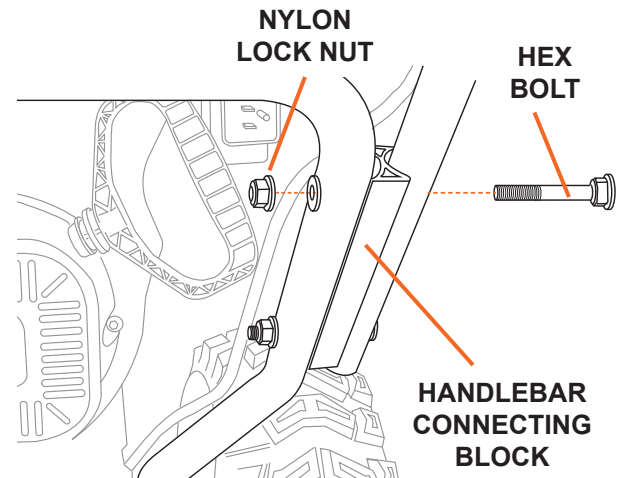

Figure 1
1. Hex bolts and nylon lock nuts have been provided in a hardware package. Align the two holes in the handlebar connector block with the two holes in the upper and lower handlebars assemblies on the snow thrower. Push hex bolts through from the outside and secure with a nylon lock nut on the interior in two places on both sides of the snow thrower. Tighten securely (see Figure 1).